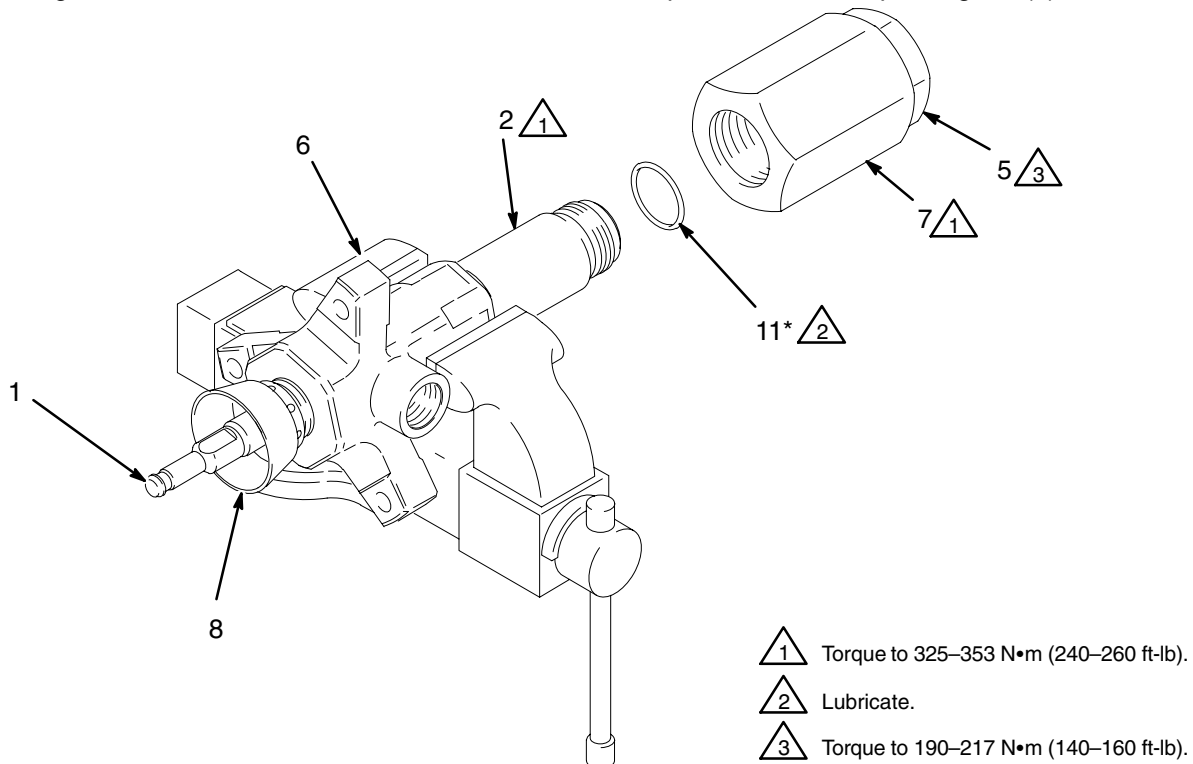

Fig. 8
5. Lubricate the threads of the packing nut (8), and loosely install it in the outlet housing (6).
6. Lubricate the piston packings. Slide the displacement rod (1) and piston assembly down into the cylinder (2). The cylinder is symmetrical, so either end may face up. Use a rubber mallet to drive the rod into the cylinder, until the piston seat housing (10) is located in the middle of the cylinder.
7. Install the seal (11\*) on the top of the cylinder (2). Lubricate the seal and the top threads of the cylinder.
8. Place the outlet housing (6) in a vise, as shown in Fig. 8. Slide the displacement rod (1) up into the outlet housing, then screw the cylinder (2) into the outlet housing handtight. The threads will engage easily until the seal (11\*) contacts the sealing surface of the outlet housing. The top of the rod will protrude from the packing nut (8).
11. Install the seal (11\*) on the bottom of the cylinder (2). See Fig. 8. Lubricate the seal and the threads of the cylinder. Screw the intake housing (7) onto the cylinder handtight. The threads will engage easily until the seal contacts the sealing surface of the intake housing.
12. Using a pipe wrench, torque the intake housing (7) to 325–353 N•m (240–260 ft-lb). This will also torque the cylinder (2) into the outlet housing (6). See Fig. 8.
13. Using a 2–3/4 in. socket or a pipe wrench, torque the intake valve (5) to 190–217 N•m (140–160 ft-lb).
14. Torque the packing nut (8) to 61–75 N•m (45–55 ft-lb).